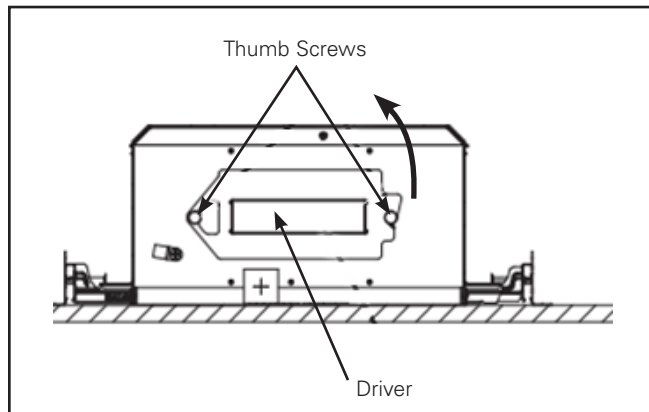

Figure 12.
5. Loosen two driver door mounting thumb screws about 3 turns (see Figure 12).
8. Disconnect driver wiring. Remove two nuts to remove driver from driver door. Attach new driver to driver door in orientation shown (Figure 12).